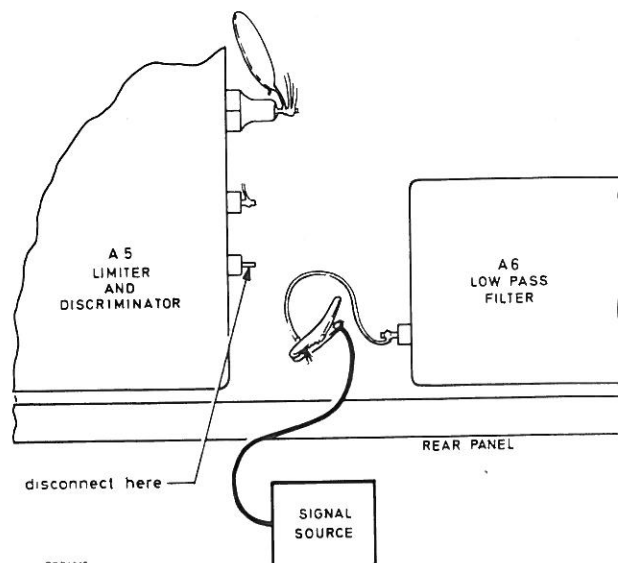

Fig. 5.3 Location of discriminator output lead
- (1) Connect the 0.014 μ F capacitor, r. m. s. voltmeter and oscilloscope across the OUTPUT terminals.
- (2) Turn the oscillator RANGE switch to EXT.
- (3) Connect the 1.5 MHz crystal oscillator to the R. F. In socket and turn the MAX MOD FREQ switch to 15 kHz.
- (4) Turn the Function switch to SET FREQ-F. M. and check that the TF 2300A meter deflects to the SET mark.
- (5) Turn the Function switch to TUNE and adjust the LEVEL control to bring the TF 2300A meter reading to the top end of the black R. F. LEVEL arc.
- (6) Turn the Function switch to SET CAL and adjust the r. m. s. voltmeter range switch to give a convenient reference level. Note this reference level.
- (7) Turn the Function switch to DEV+ and the RANGE switch to 5 kHz. Turn down the external voltmeter range switch and check that the reading is at least 52 dB below the reference level, i. e. -72 dB relative to the level of 50 kHz deviation.
- (8) If not, remove the yellow lead from the discriminator output, A5 pin 4 (see Fig. 5.3) and check that the noise level drops to -58 dB. A high noise figure can be improved by selection of transistors Q3, Q4, Q5,